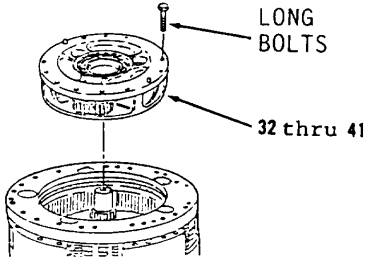

Figure 14-48.
- 34. Install items 41 thru 32 as an assembly (Figure 14-48).